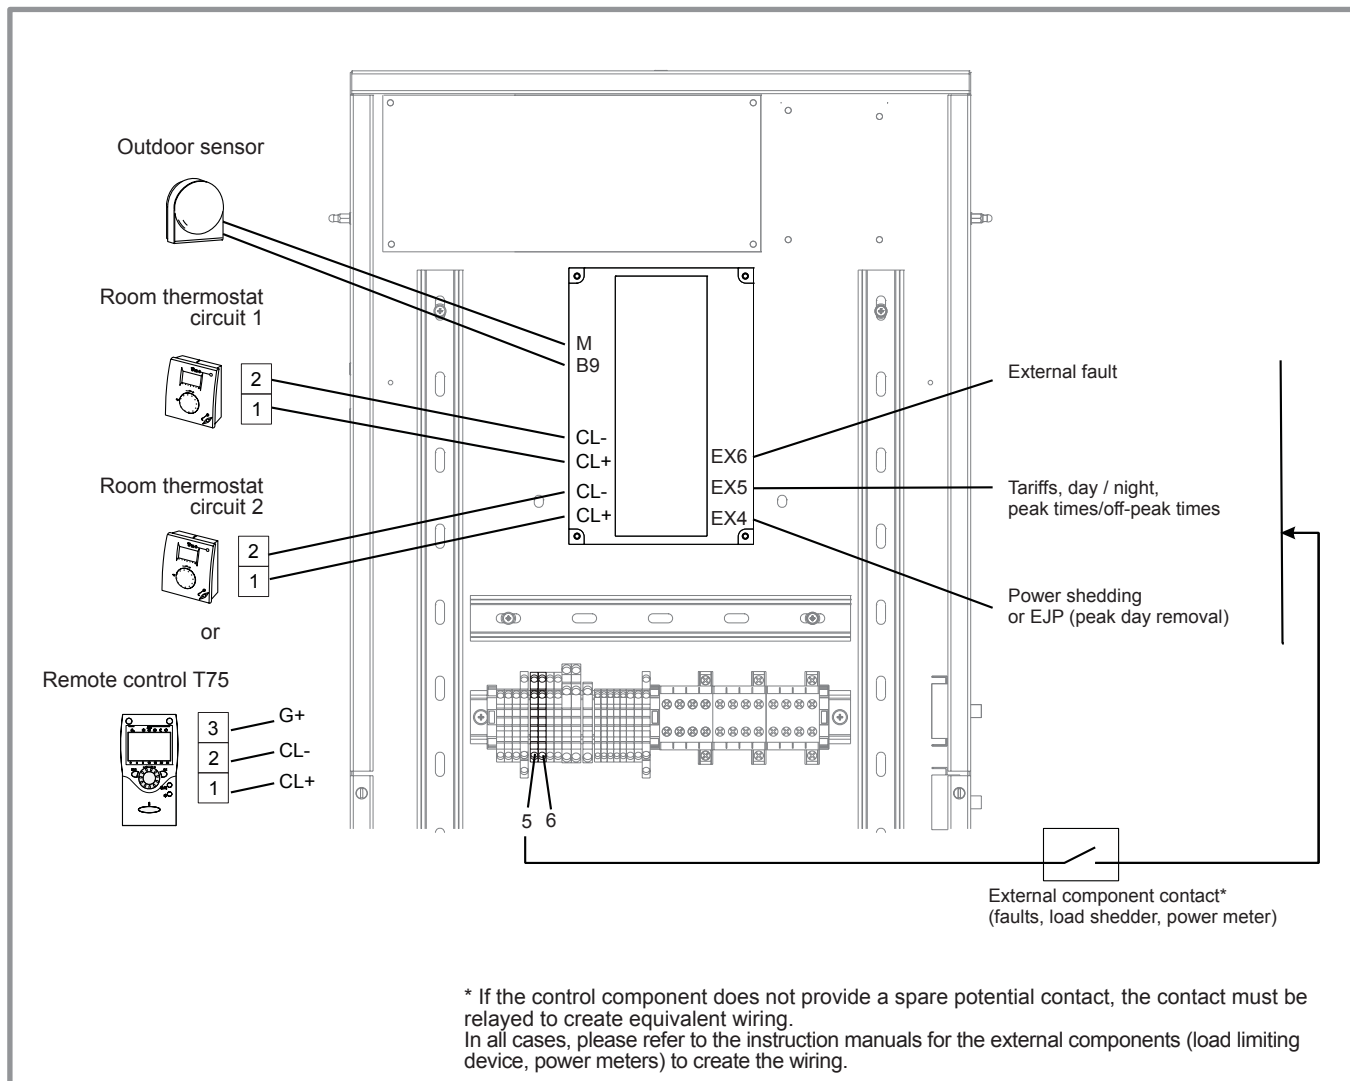

figure 35 - Connections to the heat pump regulator (accessories and options)
- Make the connections in accordance with the diagram figure 35, page 27.